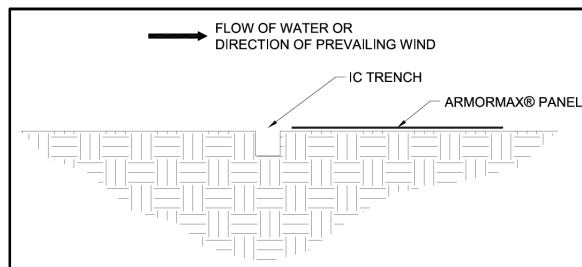
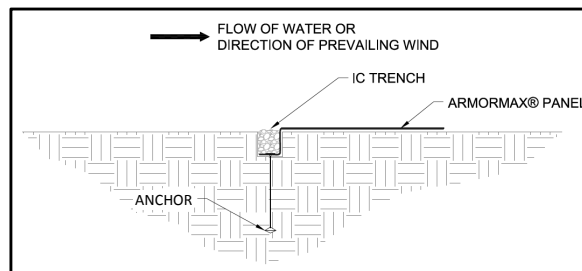

Figure 4: Initial Channel (IC) Trench Alignment
Figure 5: Initial Channel (IC) Trench Placement
3. Lay the ARMORMAX panel on the downstream side of the IC trench (Figure 4). Place the panel edge in the IC trench, ensuring full coverage along the bottom of the entire IC trench with the ARMORMAX (Figure 5). Secure ARMORMAX with pins and anchors in the IC trench (Figure 5). Pins should be made of steel with a 0.20 in (5 mm) minimum diameter, having a 1.5 in (38mm) diameter washer at the head, and a length between 12 and 24 in (300-600 mm) with sufficient ground penetration to resist pullout.
5. Backfill and compact the IC trench (Figure 5).